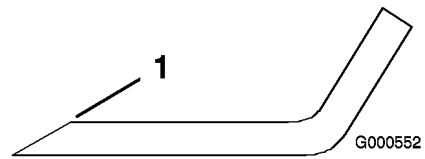

Figure 43
1. Use a file to sharpen the cutting edge at both ends of the blade (Figure 43). Maintain the original angle. The blade retains its balance if